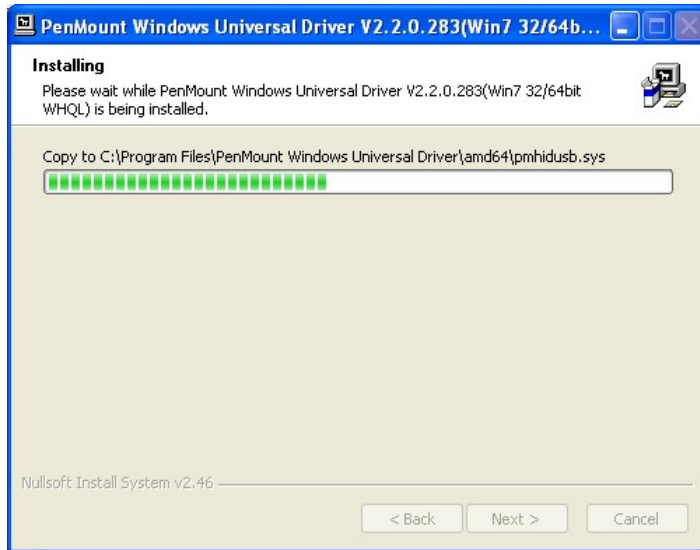

Figure 5-5: Installation Starts
Step 9: The installation of the program begins. See Figure 5-5.